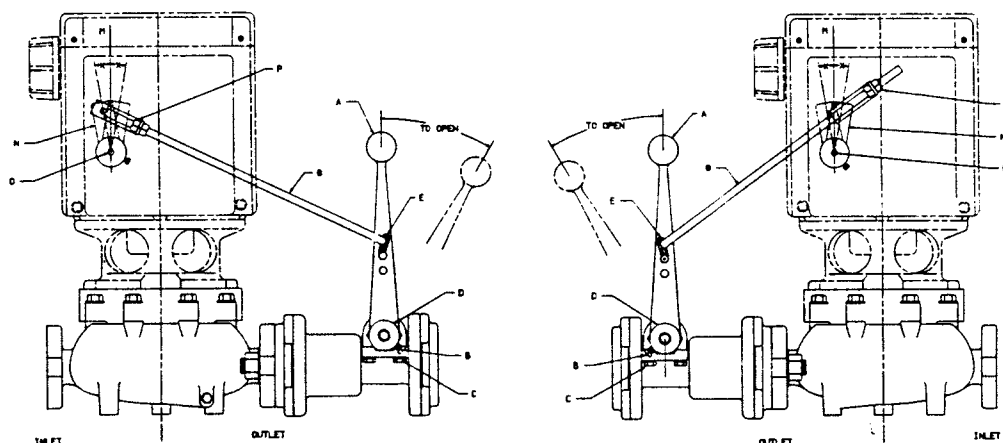

Figure 5
1. Depress the emergency stop button on the register and turn the shaft (O) clockwise (as viewed from rear of register.)
2. Assemble register arm (N) on knurled knob in position as shown for specific assembly. (Figure 5) Arm should move an equal distance each side of vertical center line (M) (Angle $x=x$).
3. Assemble one nut (P) on connecting rod (G) and the other end of the connecting rod to the center hole in handle (A) using washers and cotter pins (E).
4. Open valve all the way. Turn shaft (O) counter clockwise to latch up mechanism. With valve held open, tighten nut (P) against register arm link. Then assemble and tighten second nut at (P).
7. After the initial trip occurs the valve should close to the intermediate flow position. This rate will vary depending on product metered. If the valve closes too far, or all the way, adjust nuts (P) to provide additional rod length.
8. It is sometimes necessary to change the position of the handle. This can be done by loosening handle screw (B) and repositioning the handle as follows: If the register mechanism will not latch up, position the handle further toward the register. If the valve will not close, the handle may be positioned away from the register. Fine adjustments may be made by changing the effective length of connecting rod (G) utilizing nuts (P). The rod length (G) may also be varied by positioning the end of the rod in the upper or lower holes in the valve handle.